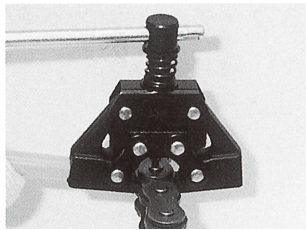

Fig. 9 Roller chain support
- 2) With the side of the chain with the ground pins (or cotter pins) facing up, clamp the roller between the two jaws and support the roller chain. (See Fig. 9.)